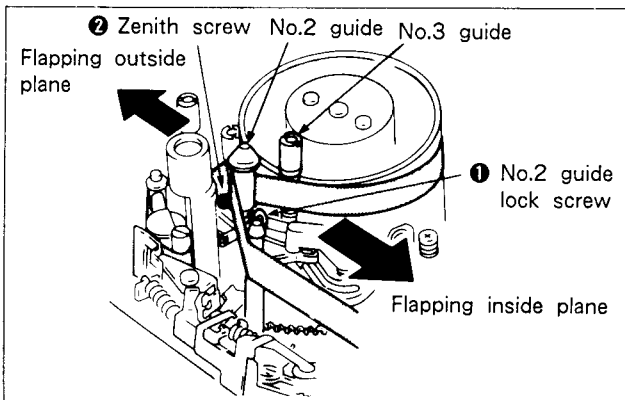

Fig. 7-71.
- 1) Play back the alignment tape (WR5-1C) for tracking and loosen No.2 guide lock screw ❶, and rotate No.2 and No.3 guides counterclockwise to free tape running on the entrance side (See Fig. 7-71.)
Adjust the No.2 guide zenith screw ❷ by turning it counterclockwise 90° at a time. (See Fig. 7-71.)
- 7) Tighten No.2 guide lock screw ❶. (See Fig. 7-71.)